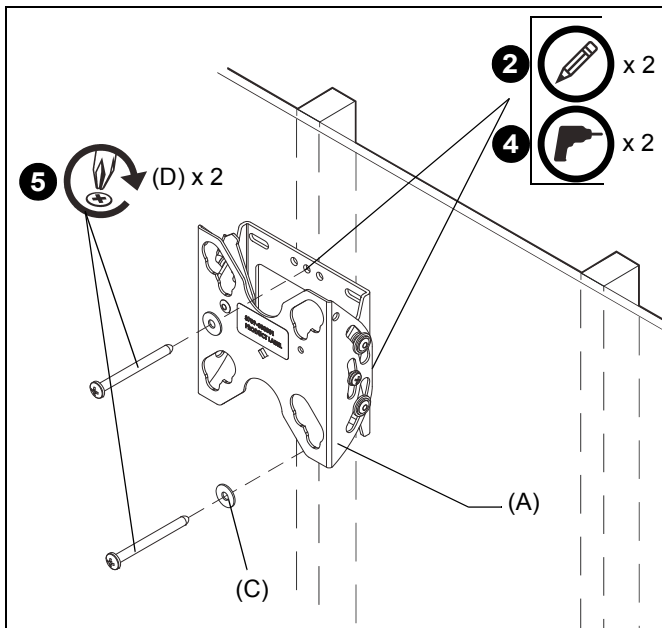

Figure 1
5. Fasten FTR to wood stud using two #10 x 2-1/2" Phillips head screws (D) through two #10 washers (C), FTR assembly (A), and drywall (not shown) and install into pilot holes. (See Figure 1)